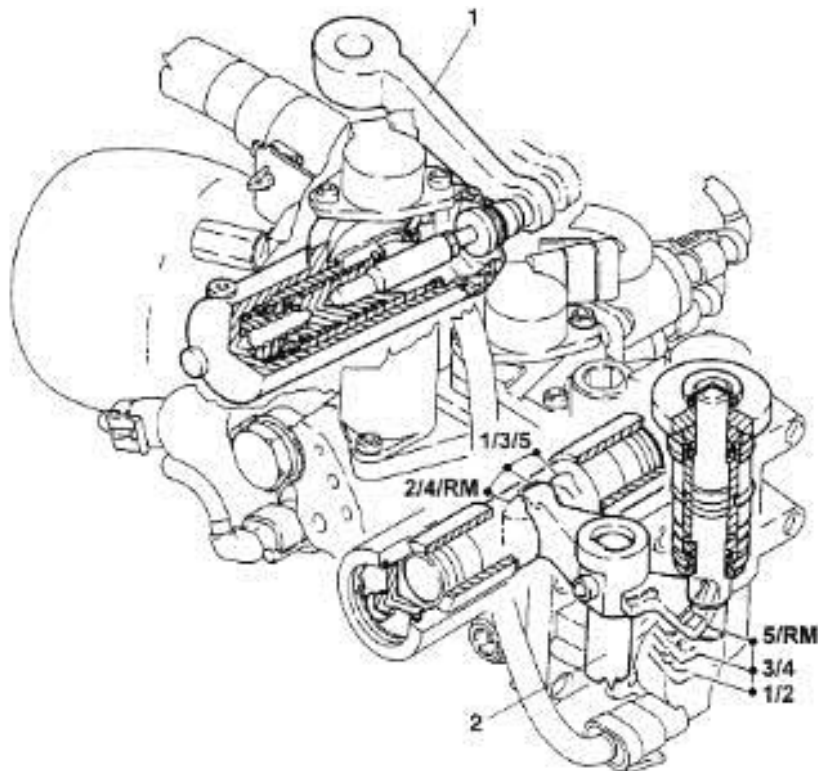

Figure. 5. Section of clutch control - gearbox actuators
As can be seen from figures 5 and 6, the CFC 208F control unit, before each gear change, activates the clutch (1) by a servo actuator and a solenoid valve (EV0) controlled by the control unit. The control function of the gear shaft takes place in these steps: